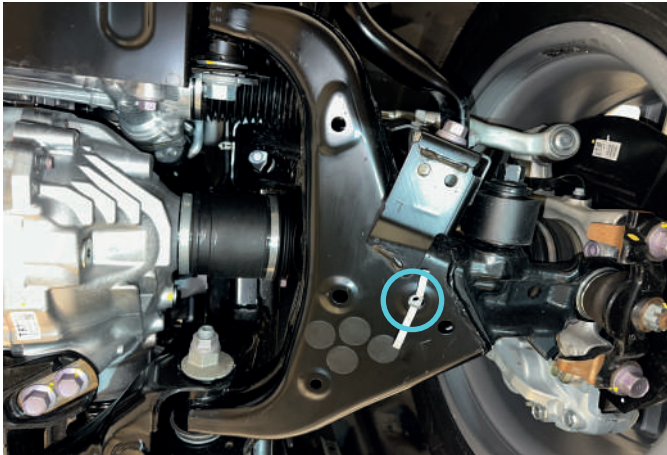

Fig. 1
1. Install insert nut M8 (item E), as shown in Fig. 1.